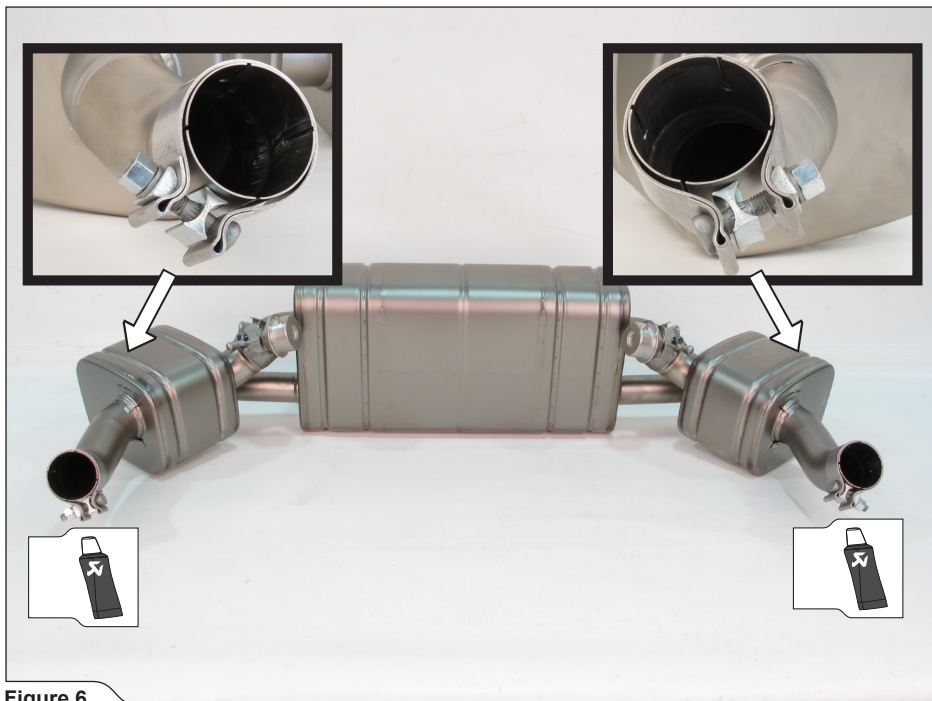

Figure 6
1. Assemble the clamps from Akrapovič installation kit onto the muffler's inlet pipes, as shown (Figure 6).